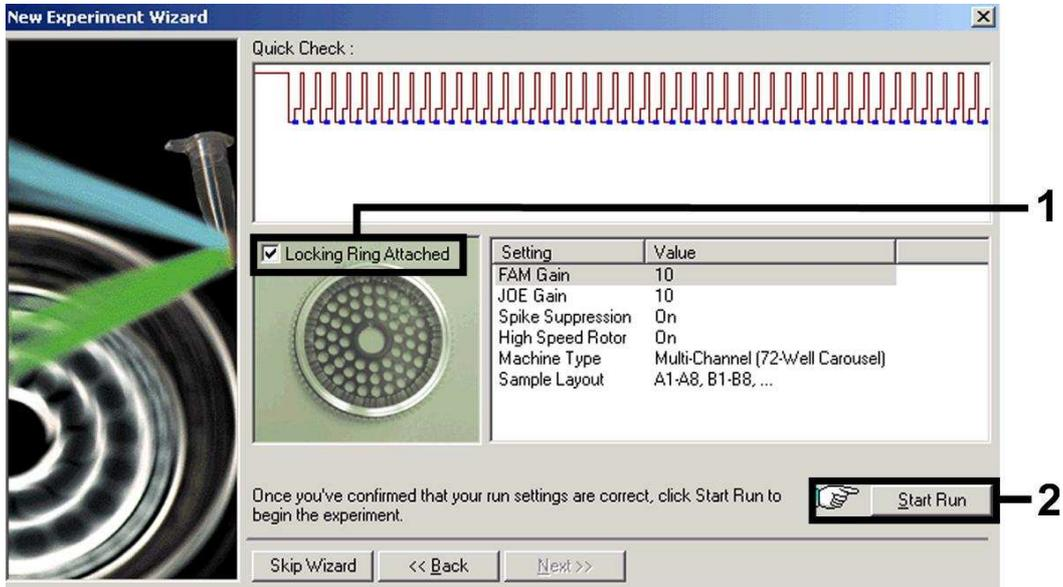

Fig. 7: Starting of the *artus 3000*TM or *Rotor-Gene*TM 3000 Run.
- E. Starting of the *artus 3000*TM or *Rotor-Gene*TM 3000 Run Fig. 7
The gain values determined by the channel calibration are saved automatically and are listed in the last menu window of the programming procedure (see Fig. 7).